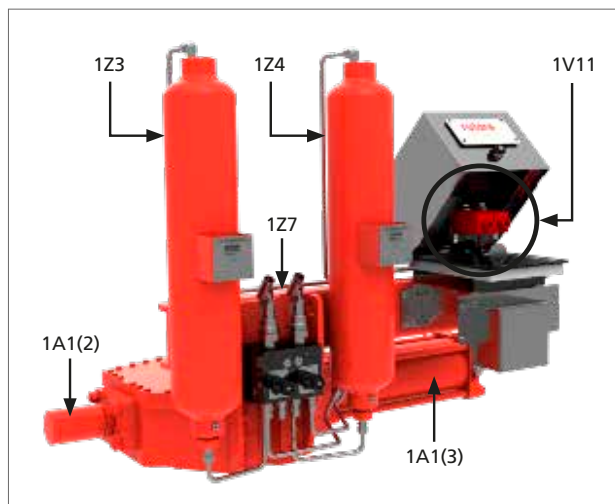
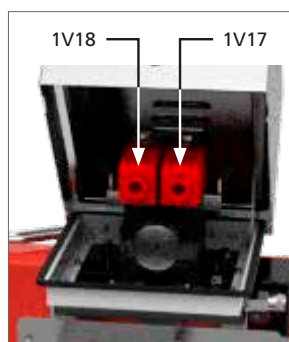
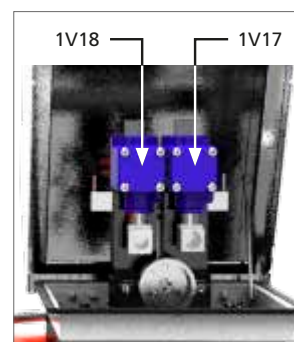
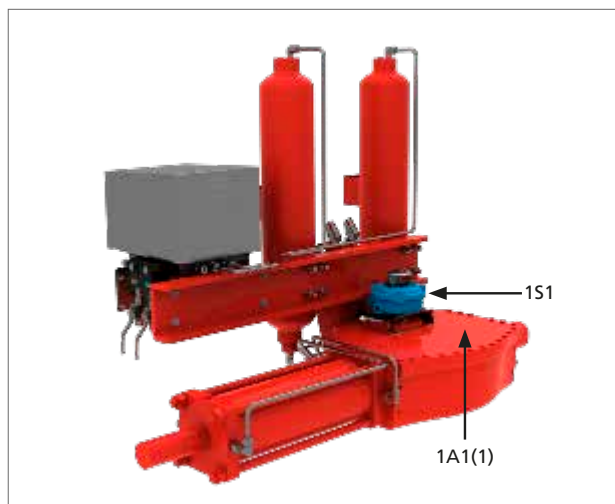

Fig 12.1 Gas over oil main components (1 of 2)
Fig 12.2 Gas control (Type 1)
Fig 12.3 Gas control (Type 2)
Fig 12.4 Gas over oil main components (2 of 2)
The main components of gas over oil actuators are shown in Fig 12.1, Fig 12.2, Fig 12.3 and Fig 12.4.
**(\*): Gas control could be of different types according to project specific requirements. Refer to Fig 12.2 and Fig 12.3 according to specific project documentation.**